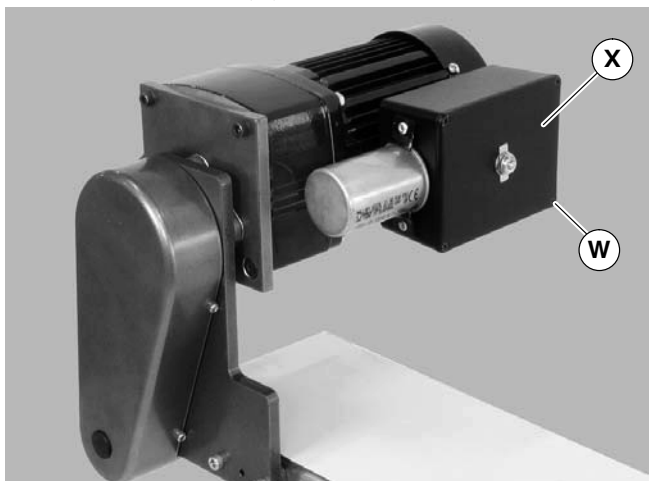

Figure 16
- a. Loosen terminal box screws (W of Figure 16) and remove cover (X).